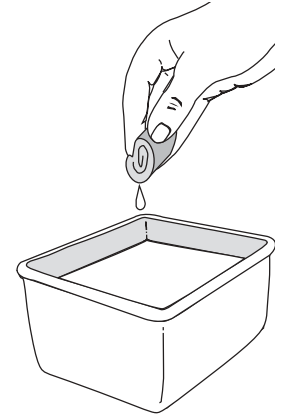

Fig. 49
3. Wash the filter in detergent and water (Fig. 49). Rinse the filter thoroughly. Squeeze out excess water. Allow it to dry completely.